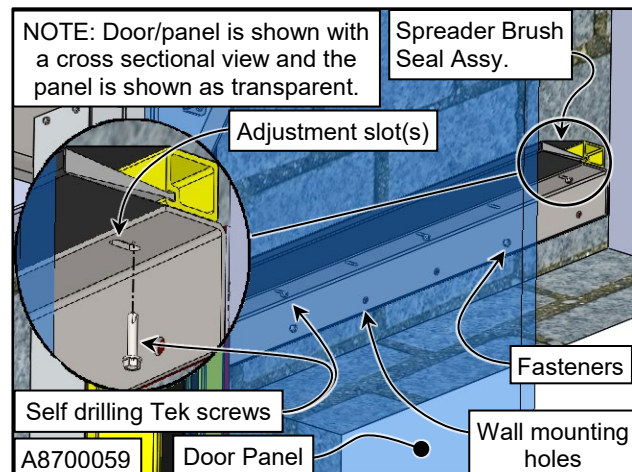

Figure 21
8. Mount and secure the Top Rear Spreader Brush Seal in between the side columns as shown. Adjust to provide a proper door seal. Use alternating fastener holes. (See Figure 21)